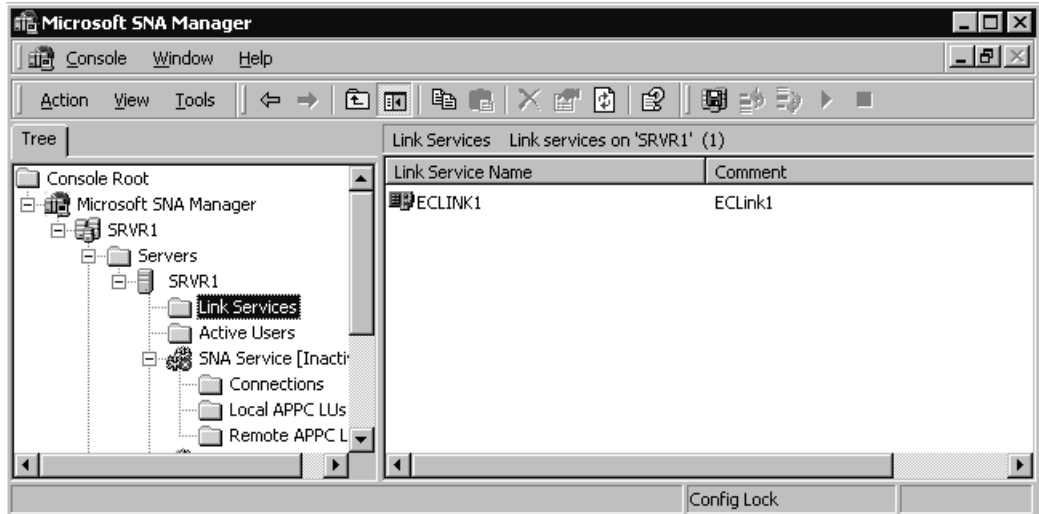

Figure 8-11. Link Services Folder
4. To verify the installation open the **Link Services** folder. A Link service (“ECLINKn”) should appear in the folder (Figure 8-11).